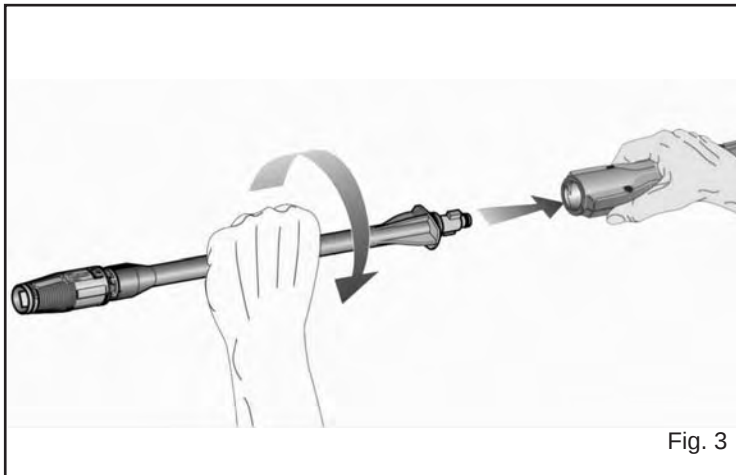

Fig. 3
6. Insert the wand into the gun's quick connect coupling by pushing firmly and twisting wand $\frac{1}{4}$ of a turn to lock into place. (Fig 3)